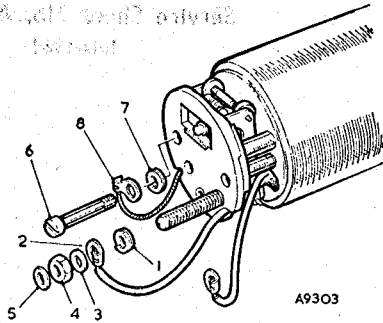

Fig. 3. Attaching the pedestal to the coil housing
3. Assemble the 2 B.A. spring washer (1) (Fig. 3), and put the terminal stud through the 2 B.A. terminal tag (2), then fit the lead washer (3) and the coned nut with its coned face to the lead washer. (This makes better contact than an ordinary flat washer and nut.) Tighten the 2 B.A. nut and finally add the end-cover seal washer (5).
4. Assemble the pedestal to the coil housing (Fig. 3) by fitting the two 2 B.A. pedestal screws (6), ensuring that the spring washer (7) on the left-hand screw (9 o'clock position) is between the pedestal and the earthing tag (8).
5. Tighten the screws, taking care to prevent the earthing tag (8) from turning, as this will strain or break the earthing flex. Do not overtighten the screws or the pedestal will crack.